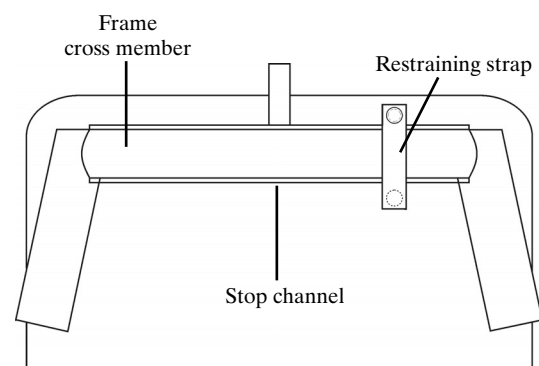

Figure 2 - Securing Leg Frame
2. Turn the ADC-08 Stool upside down and set on the edge of an elevated flat surface such as a table or counter top. Scissor the leg frame so that the frame cross member lines up with the stop channel at the rear of the stool on the underside. Fit the frame cross member into the channel and push firmly into place (Fig. 2). Wrap restraining strap over the top of the cross member and snap into place. Ensure that the strap retains the frame cross member firmly into the stop channel.